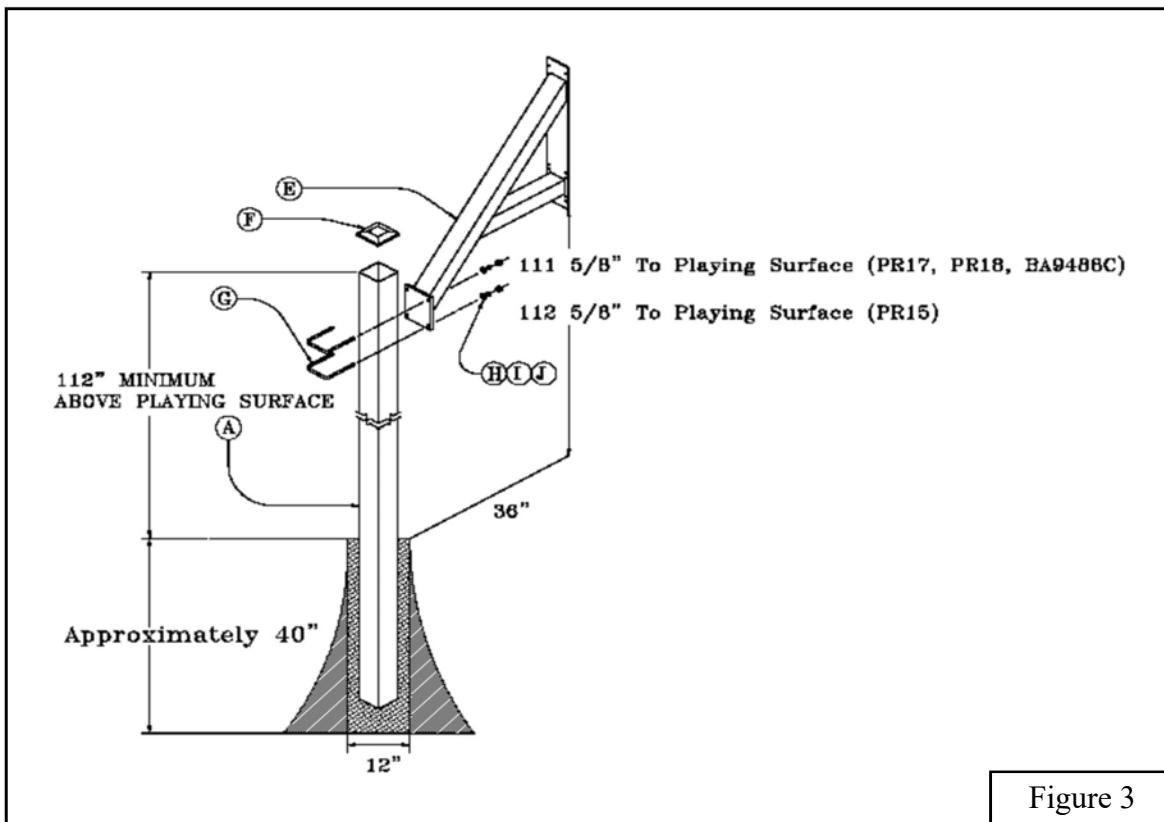

Figure 3
- 4a. Dig a hole that is a minimum of 12" diameter and 40" deep, deeper in heavy frost areas. Remove dirt in the bottom 1/3 of the hole in a bell shape to improve pole stability. The amount of *Premix Concrete* (N) required will depend on the final size of the hole, but a 12" diameter hole, 40" deep with minor additional soil removed from the hole will require approximately 3.5 cubic feet of *Premix Concrete* (N). Always better to have too much rather than too little on site. See Figure 3.
- 19b. **Install the Warning Label (GG) at eye level on the rear of the pole.**
20. Using 1/2" U-Bolts (G), 1/2" Hex Nuts (H), 1/2" Flat Washers (I), and 1/2" Lock Washers (J), attach the *Extension Arm* (E) to the pole assembly. Attaching loosely will allow arm to be adjusted to the proper height. See Figure 3.
21. Depending on the system being installed, the bottom of the mounting plate on the front of the *Extension Arm* (E) should be located the prescribed distance from the finished playing surface. See Figure 3.